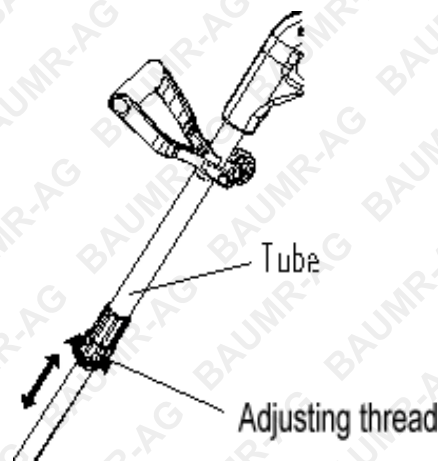

FIG. 7
5. The length of the grass trimmer can be infinitely varied and therefore adjusted to your individual height (FIG. 7):